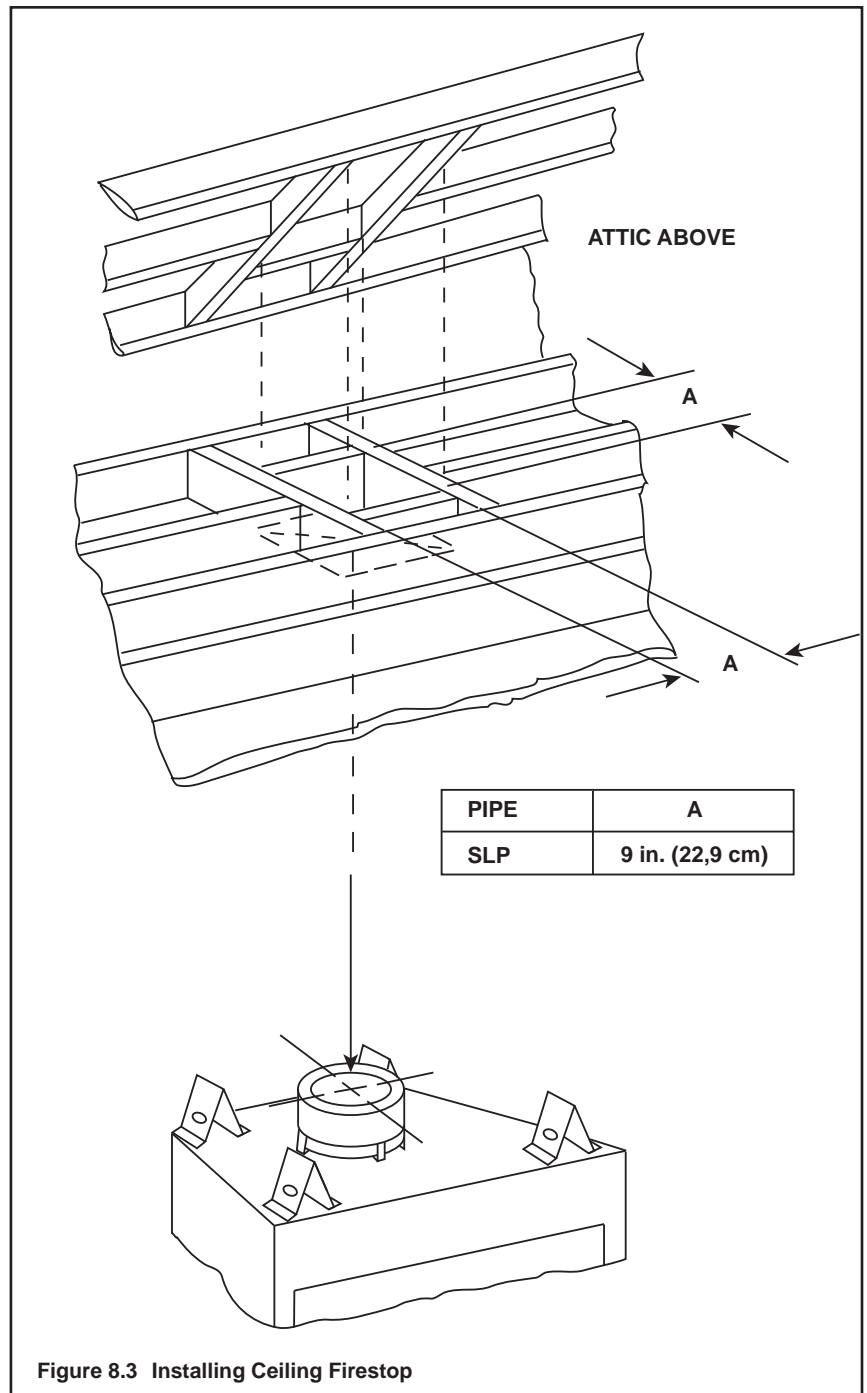

Figure 8.3 Installing Ceiling Firestop
- **SLP pipe only** - Frame opening 22,9 cm x 22,9 cm whenever the vent penetrates a ceiling/floor (see Figure 8.3).